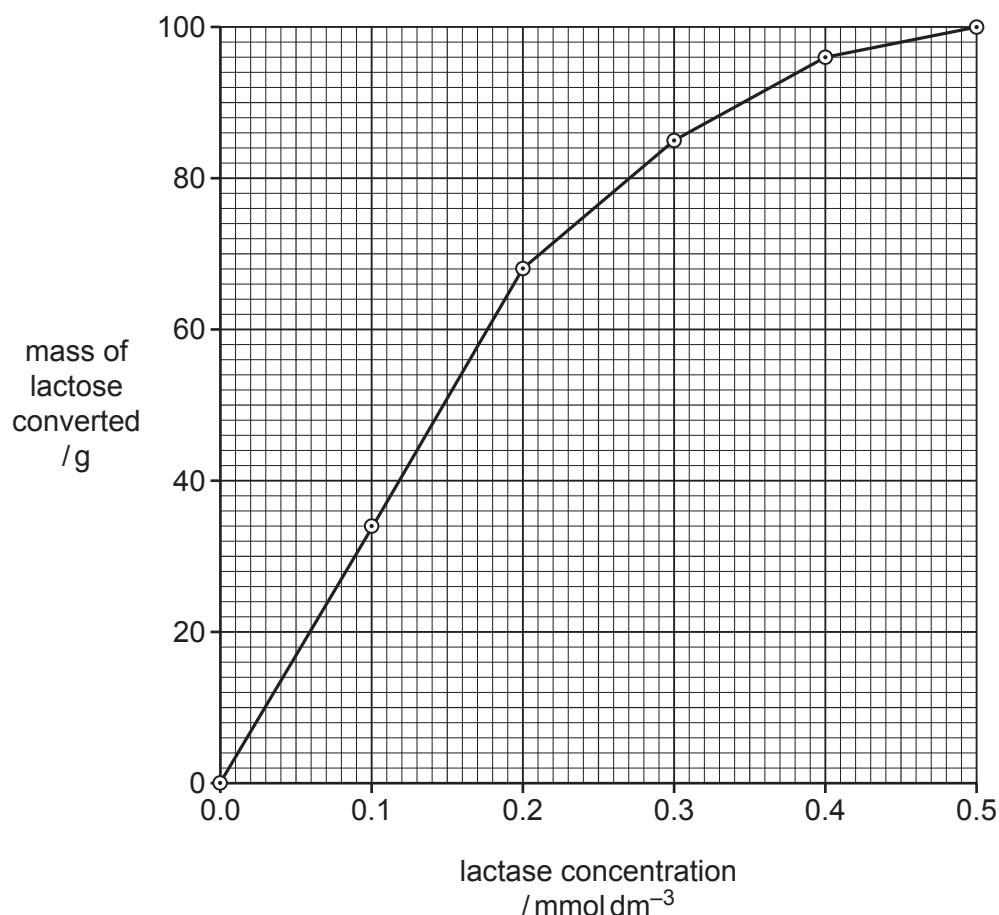

Fig. 1.4
The scientist plotted a graph of the results, shown in Fig. 1.4.
- (i) Use the graph in Fig. 1.4 to determine the mass of lactose converted when $0.16 \text{ mmol dm}^{-3}$ of lactase is used.